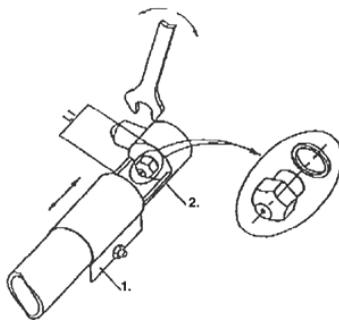

Figure 5
- Open the air supply as far as possible by moving the adjusting ring (**Fig. 5, Pos. 1**).
- Remove the injector (**Fig. 5, Pos. 2**) using a screw-wrench of size 10.